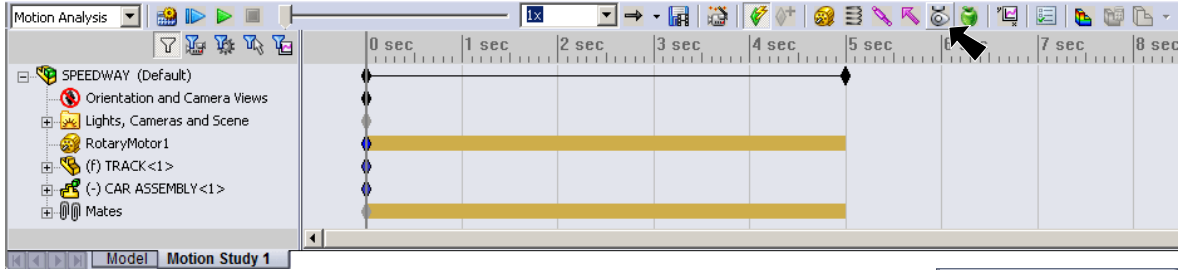

Fig. 9
Step 1. Click **Contact**  on the Motion Manager toolbar, **Fig. 9**.